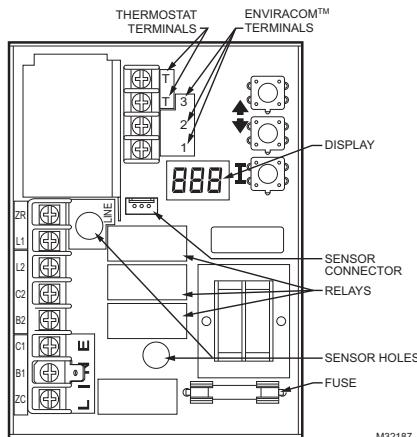

Fig. 5. Circuit board, showing sensor connection and well holes for vertical mount models.
- Carefully align replacement sensor with hole in circuit board and guide through Aquastat case and into well. (See Fig. 5).
- Connect sensor to circuit board by pressing connector on sensor unit into mating connector on circuit board (See Fig. 5).
To discourage unauthorized changing of Aquastat settings, a procedure to enter the ADJUSTMENT mode is required. To enter the ADJUSTMENT mode, press the UP, DOWN, and I buttons (Refer to Fig. 5) simultaneously for three seconds. Press the I button until the feature requiring adjustment is displayed: